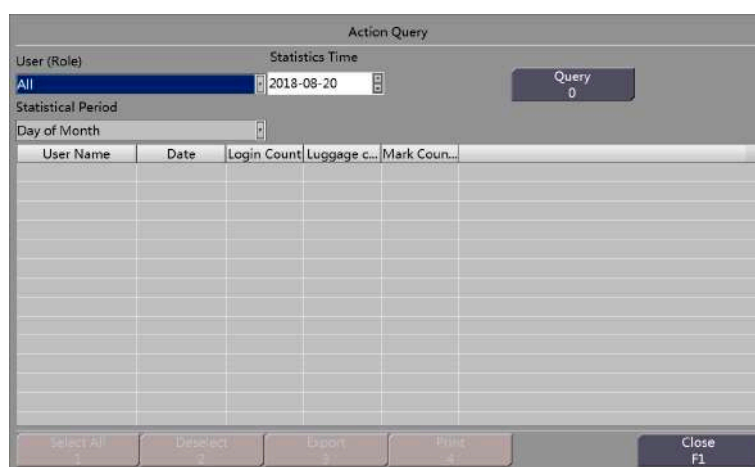

Figure 15-10 Action Querying Interface
Step 1 Choose Log Management from the main menu in Figure 14-1 to display the Log Management interface, as shown in Figure 15-1. Choose Action Query from the Log Management menu to display the Action Query interface, as shown in Figure 15-10.